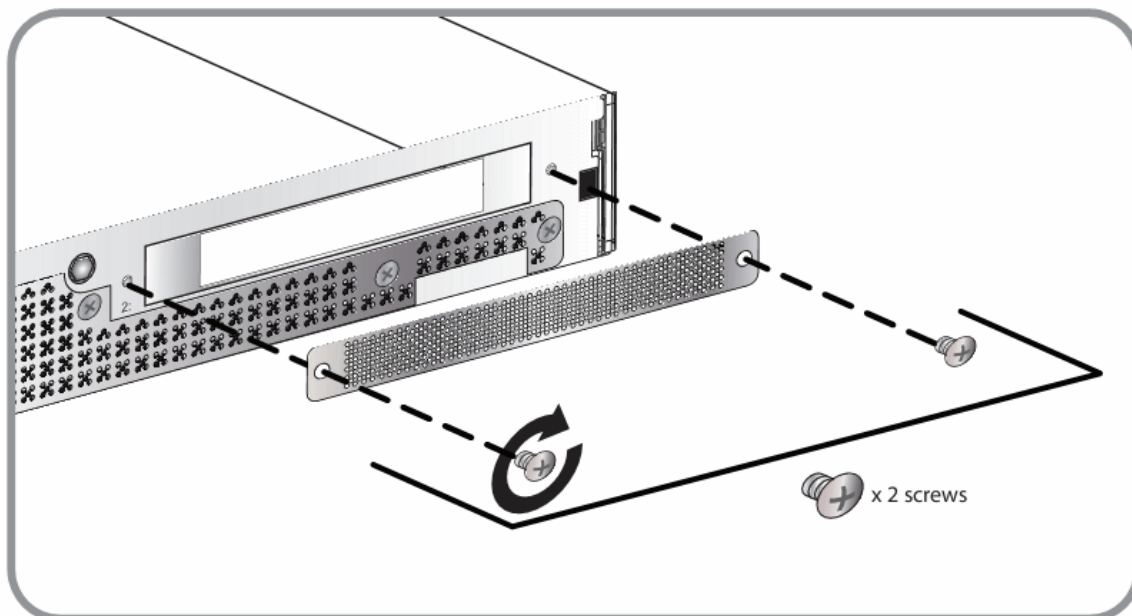

Figure 6 PCI Cover Installation
3. Install the PCI cover as shown in Figure 6 if you do not have an option card installed in your appliance. To install the PCI cover, you must: